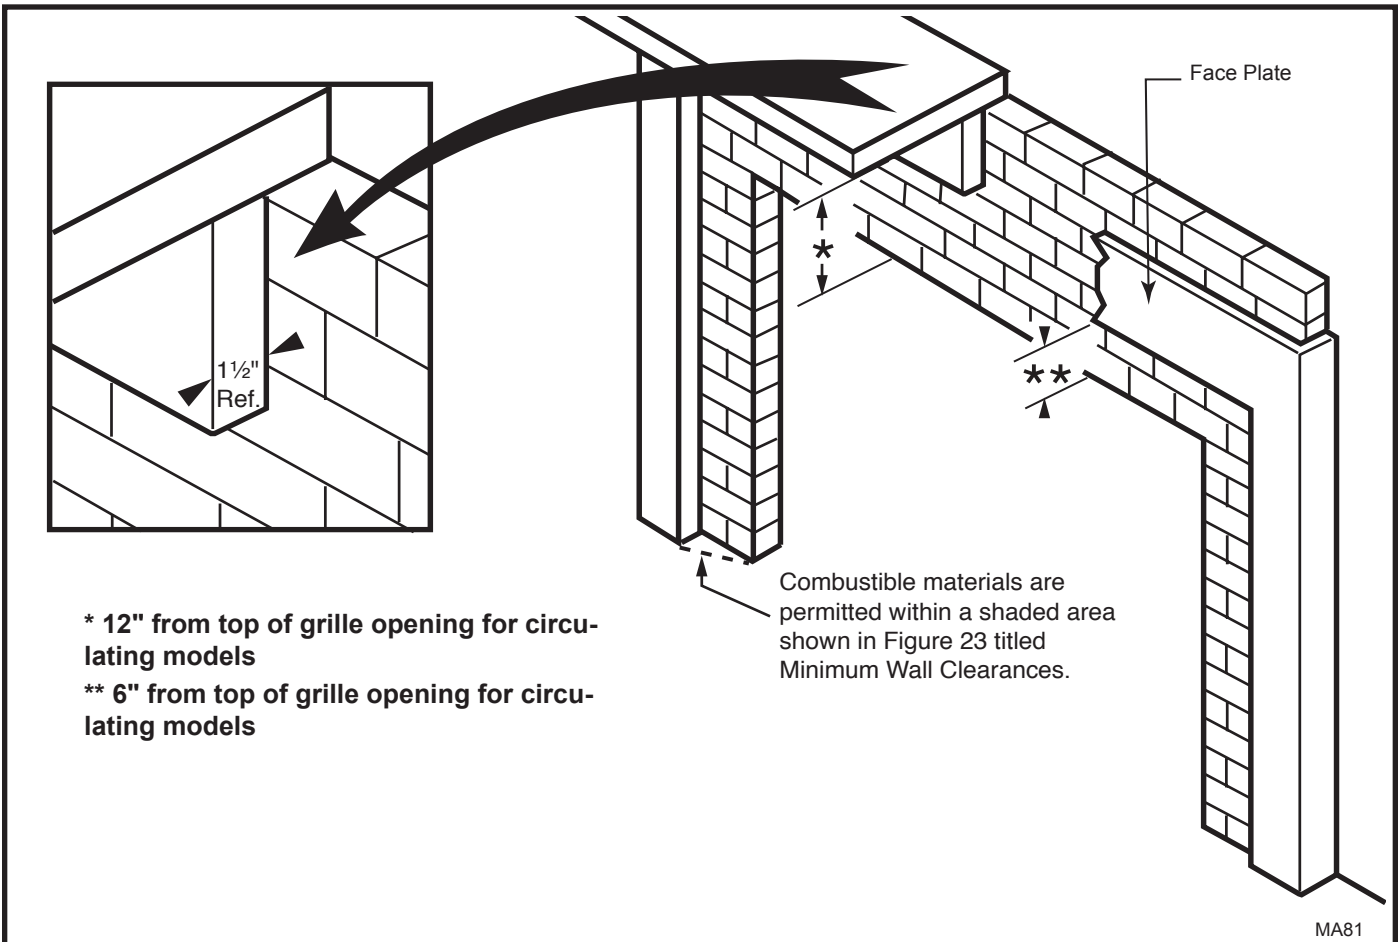

Fig. 23 Combustible mantel clearances.
Finish the wall with material of your choice. **Do not install a combustible mantel shelf less than 12" (305 mm) from top of grille opening. Do not install a mantel face plate less than 6" (159 mm) from top of grille opening.** (Fig. 23) If a combustible material is used below a flat mantel shelf, consult your local building codes for minimum clearance from top of fireplace opening to bottom of mantel shelf.
NOTE: No side wall protection is required for fireplaces installed at 45° to two (2) side walls (corner installation). Often a decorative surround or vertical portion of the mantel is desired. If this is constructed of any combustible material it must be within the safe zone indicated in Figure 23.